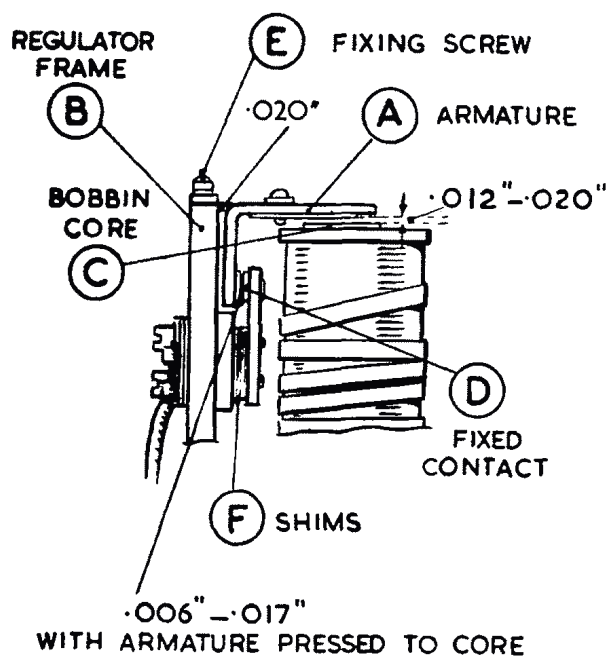

Fig. N.7
- (1) Slacken the two armature fixing screws (E) (Fig. N.7). Insert a .020 in. (.51 mm.) feeler gauge between the back of the armature (A) and the regulator frame.
- (2) Press back the armature against the regulator frame and down onto the top of the bobbin core with the gauge in position and lock the armature by tightening the two fixing screws.
- (3) Check the gap between the under side of the arm and the top of the bobbin core. This must be .012 to .020 in. (.30 to .51 mm.). If the gap is outside these limits correct by adding or removing shims (F) (Fig. N.7) at the back of the fixed contact (D) or, in later types, by carefully bending the fixed contact bracket.
- (4) Remove the gauge and press the armature down, when the gap between the contacts should be between .006 in. (.15 mm.) and .017 in. (.43 mm.).